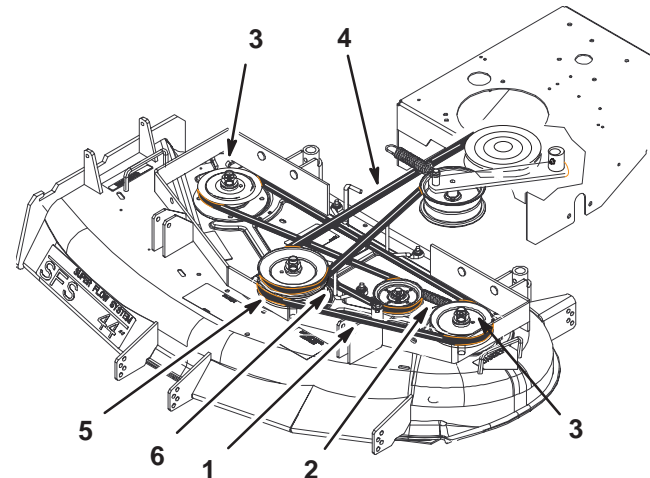

Figure 59
5. Disconnect the idler arm spring to relieve tension on the idler arm and idler pulley, then remove the worn deck belt (Fig. 59).
6. Install the new deck belt around the two outside spindle pulleys, the idler pulley, and in the lower groove of the center spindle pulley (Fig. 59).
7. Connect the idler arm spring (Fig. 59).
9. Adjust deck belt guide an 1/8 in. from belt (Fig. 59).